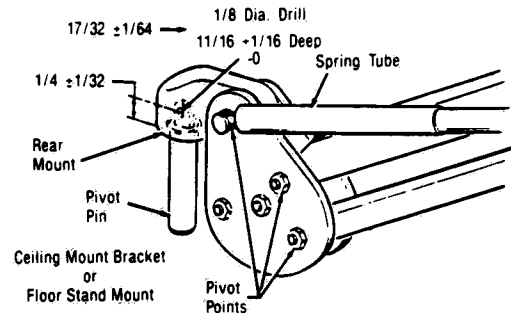

Figure 4-15. SECURING PIVOT PIN.
- 2) Secure pivot pin to rear mount using grooved pin (P-31704-061) as follows (see Figure 4-15):